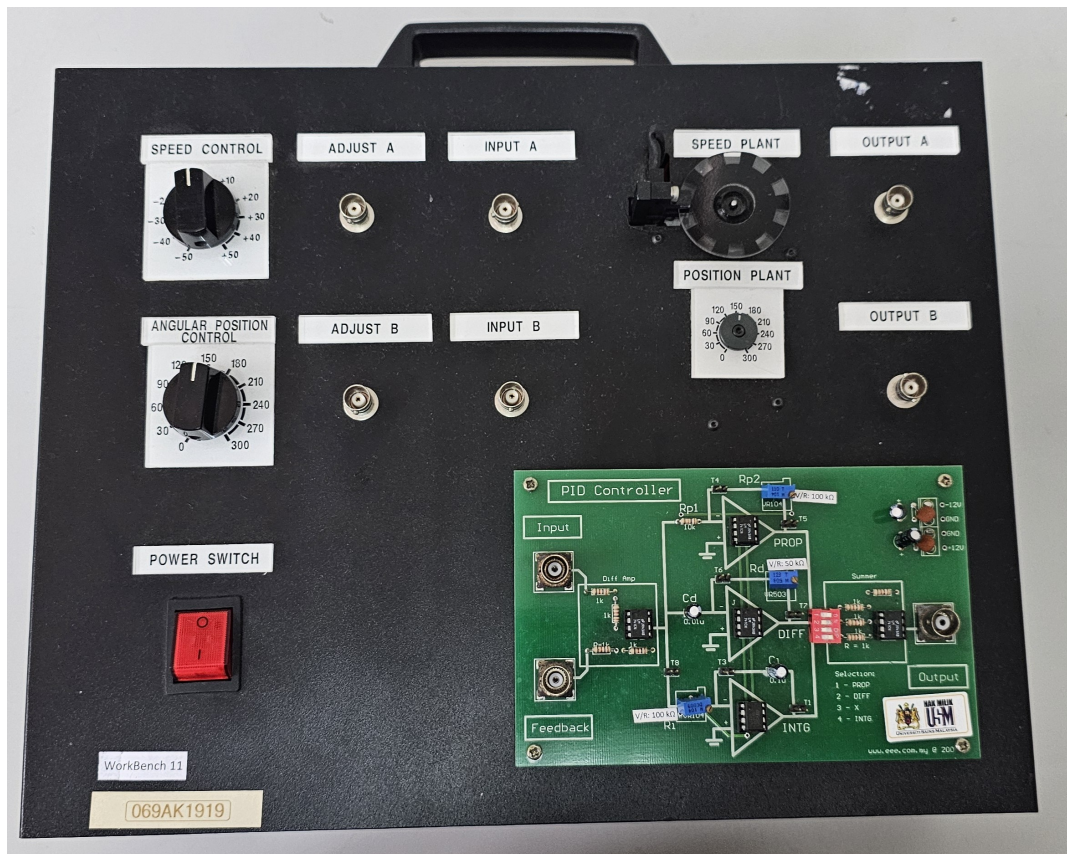

Figure 1.1: DC Motor / PID Control trainer.
2. Disconnect all cable wires from the hardware module (Figure 1.1).